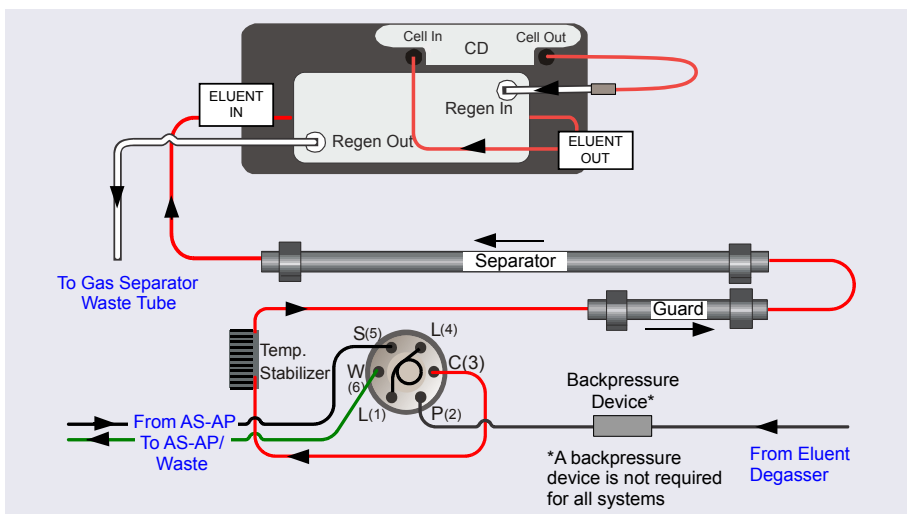
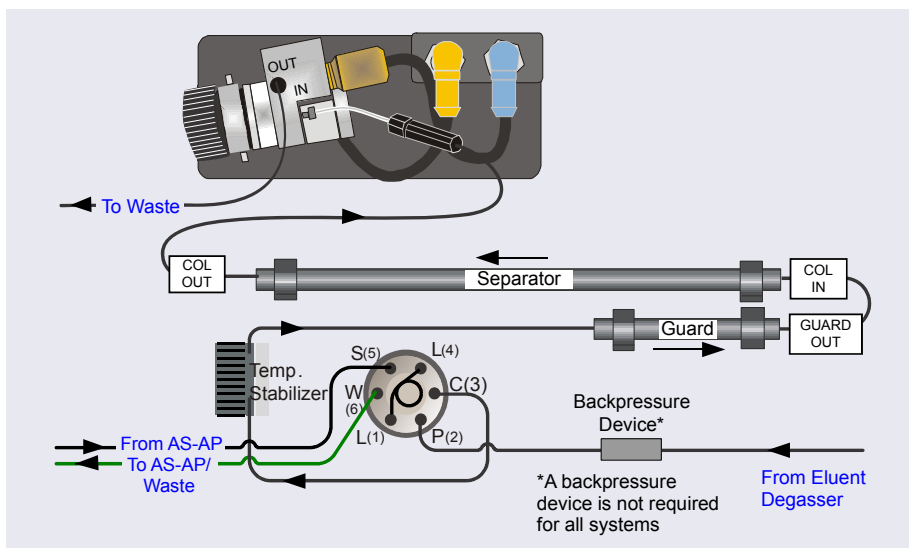

Figure 4-31. Example DC Plumbing for Analytical IC with Conductivity Detection: System 1 (Left Side) Shown
Figure 4-32. Example DC Plumbing for Analytical IC with Electrochemical Detection: System 1 (Left Side) Shown
Figure 4-32 shows the liquid flow path through the DC components for conductivity detection after all plumbing connections are complete.
Figure 4-31 shows the flow path for electrochemical detection.
2. Connect the tubing to the columns as shown in Figure 4-31 or Figure 4-32.
2. Connect the tubing to the suppressor and cell as shown in Figure 4-31.
2. Connect the tubing to the cell as shown in Figure 4-32.